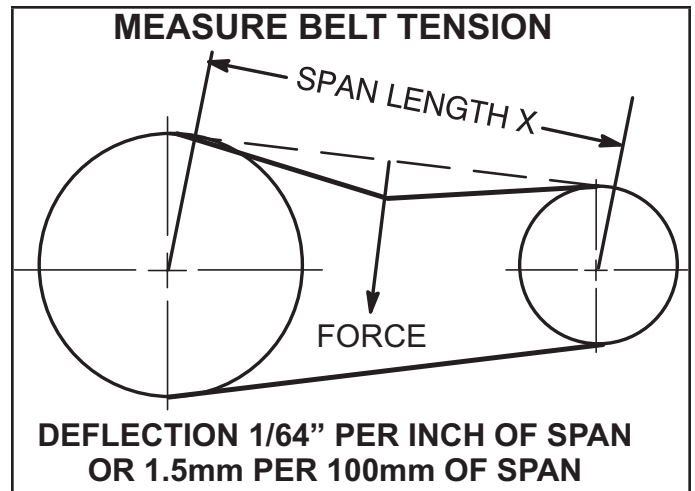

FIGURE 22
- 1 - Measure span length X. See FIGURE 22.
- 2 - Apply perpendicular force to center of span (X) with enough pressure to deflect belt  $1/64"$  for every inch of span length or 1.5mm per 100mm of span length.